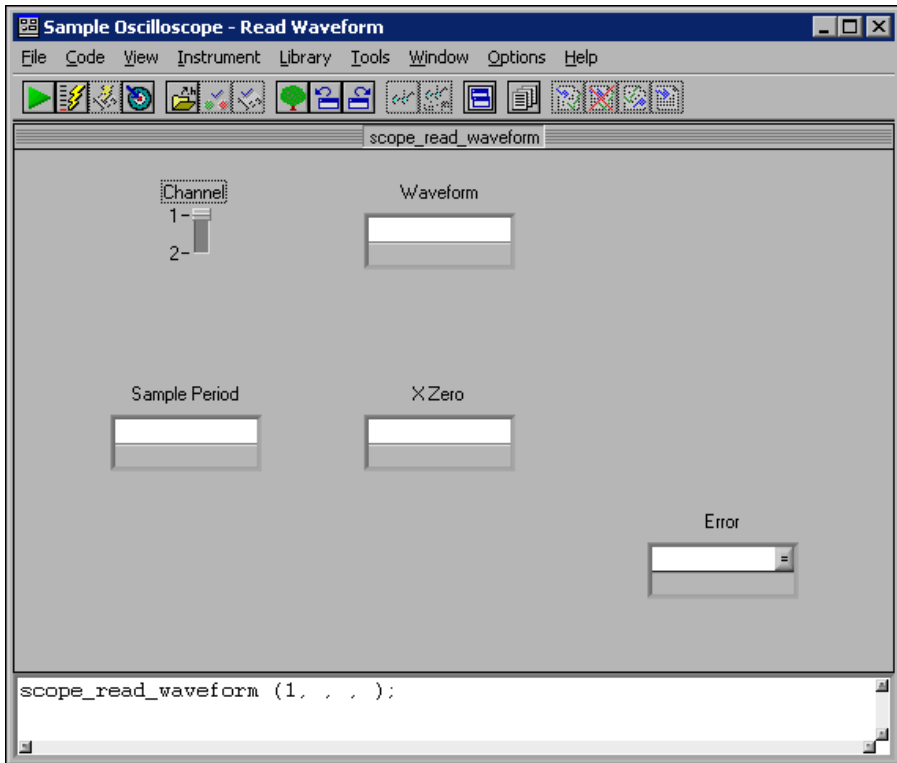

Figure 3-10. Read Waveform Function Panel
1. Select **Instruments»Sample Oscilloscope»Read Waveform** in the Library Tree. The function panel shown in Figure 3-10 appears.